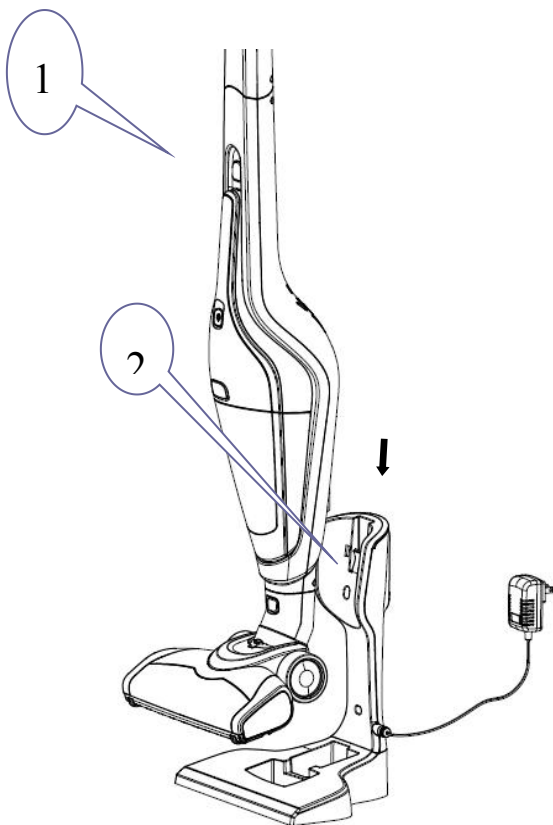
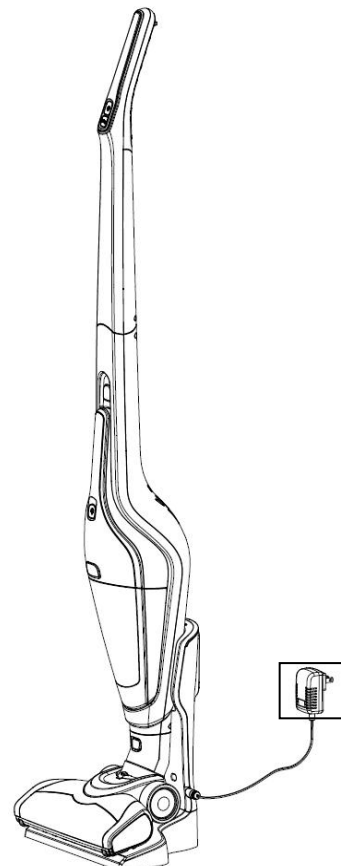

Fig. 5-2a
Fig. 5-2b
5.3 Lift the appliance and put it onto the charger, make the socket of body (1) cover the charger stand (2) (Fig.5-2a), at that time, the electricity quantity indicator turns on, and the appliance enters into the charging condition, all the charging indicators will turn on when finish charging. (see Fig.5-2b)